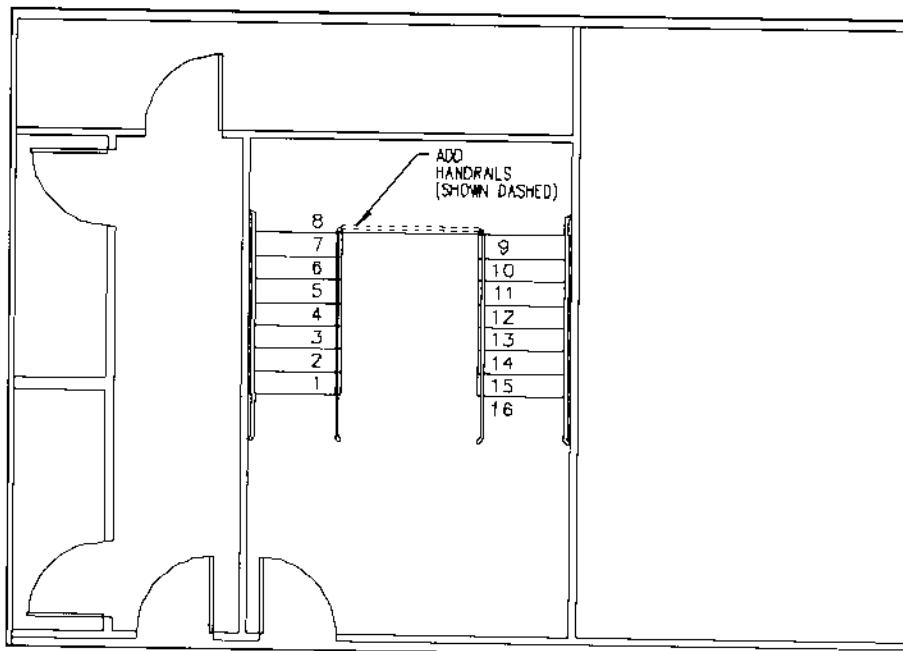

Figure 67.
Note: The 2D U Shaped Stair handrails and returns are shown in Figure 67.
8. Complete the stair by adding lines on layer ARHANDRAIL or ARSTAIR to connect the corner handrails between the stairs at the mid-landing, and the UP arrow at the bottom of tread #1, as shown in Figure 67.